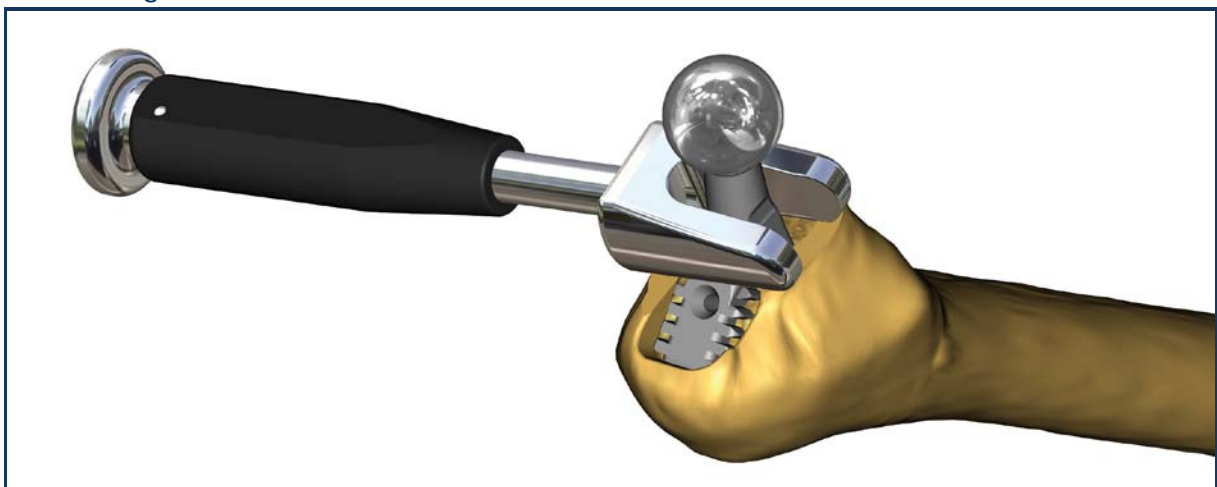

fig. 1: Use of the head extractor with an appropriate separating wedge
- Careful removal of the existing head from the hip stem using the head extractor with appropriate separating wedge (fig. 1)